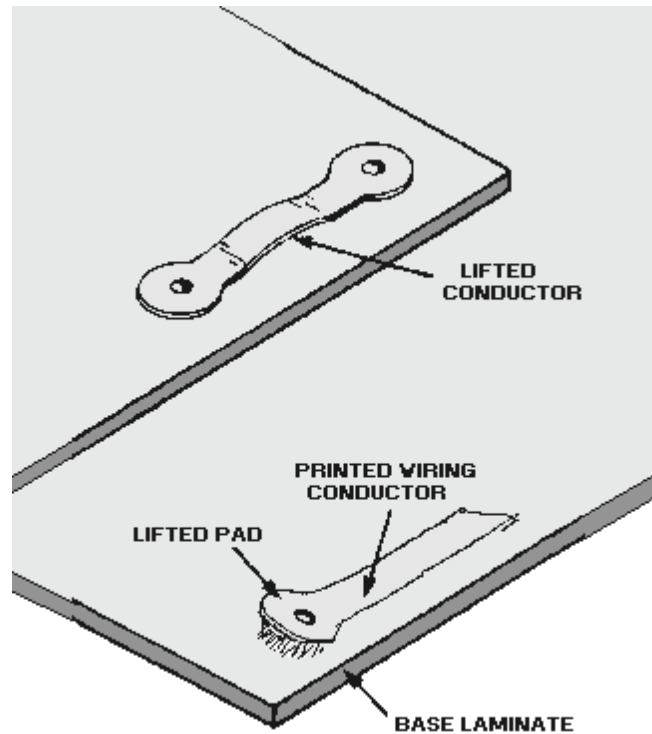

Figure 3-26.—Delaminated conductors.
**REPAIRING DELAMINATED CONDUCTORS.**—DELAMINATED CONDUCTORS (figure 3-26) are classified as conductors no longer bonded to the board surface. Separation of the laminations may occur only on a part of the conductor. Proper epoxying techniques ensure complete bonding of the conductor to the circuit board laminate. The following procedures are used to obtain a proper bond: